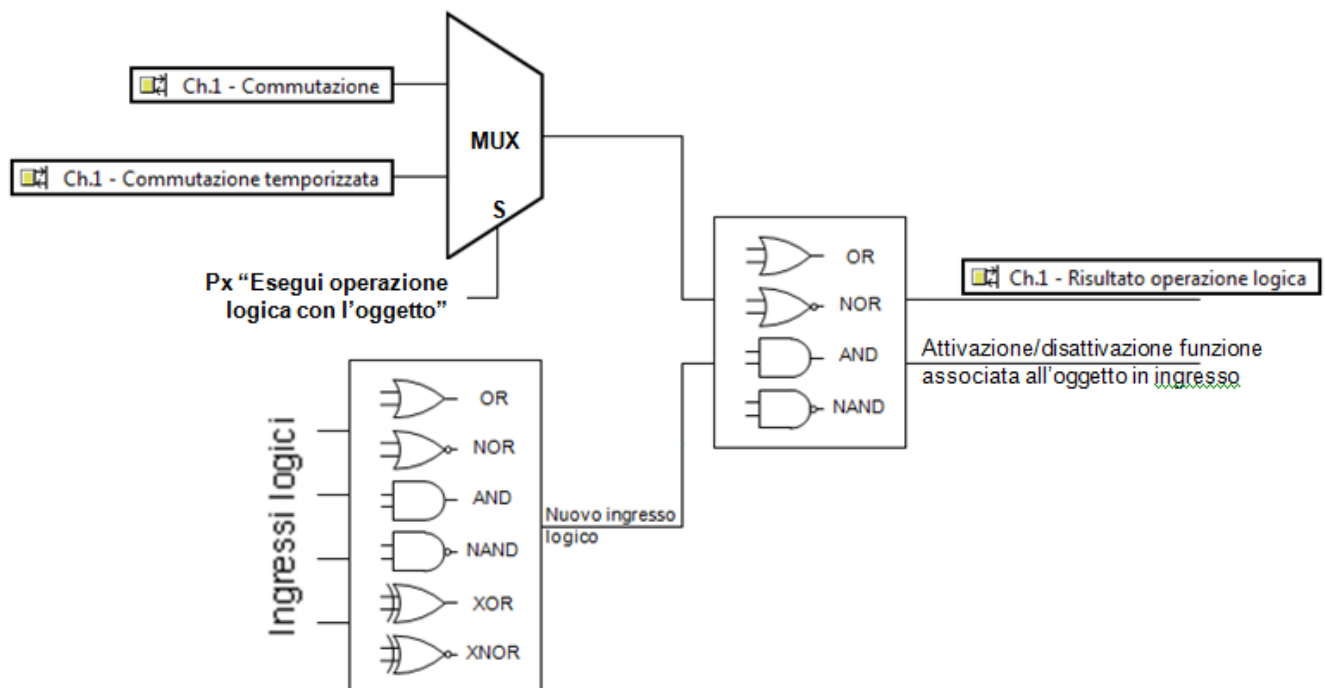

Fig. 10.3: Logic network with the use of the Multiplexer (MUX)
- 1 as the input of another logic operation, performed with one of the objects **Ch. x - Switching**, **Ch. x - Timed switching** or **Ch. x - Light sequences i** if the load is monochrome, or with one of the objects **RGB - Red switching**, **RGB - Green switching**, **RGB - Blue switching**, **RGB - Timed switching** or **Colour sequence i** if the load is RGBW or RGB. The operating diagram is shown in fig. 10.3: